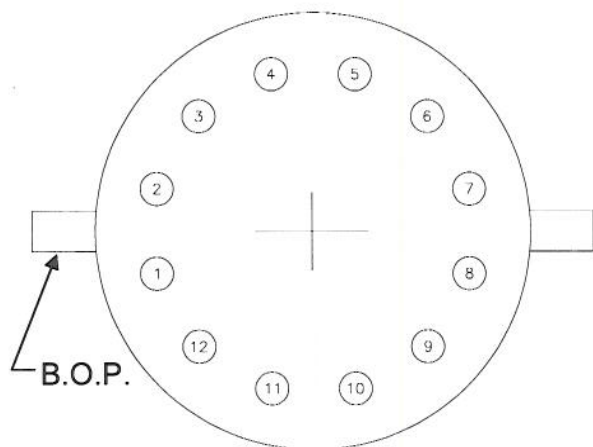

Figure 8
3. Repeat steps 2 & 3 until studs #2, #4, #5, #7 & #8 have been switched out (Figure 8).